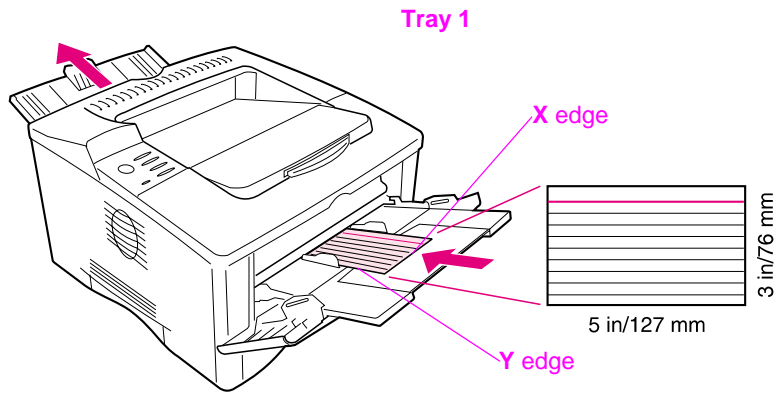

Figure 13 Printing Custom-Size Paper
- 3** From the Printing Menu, set the X dimension (the front edge of the paper) as shown in Figure 13. The X dimension can be 3 to 12.28 inches (76 to 312 mm) for Tray 1. Set the Y dimension (the side edge of the paper) as shown in Figure 13. The Y dimension can be 5 to 18.5 inches (127 to 470 mm) for Tray 1.